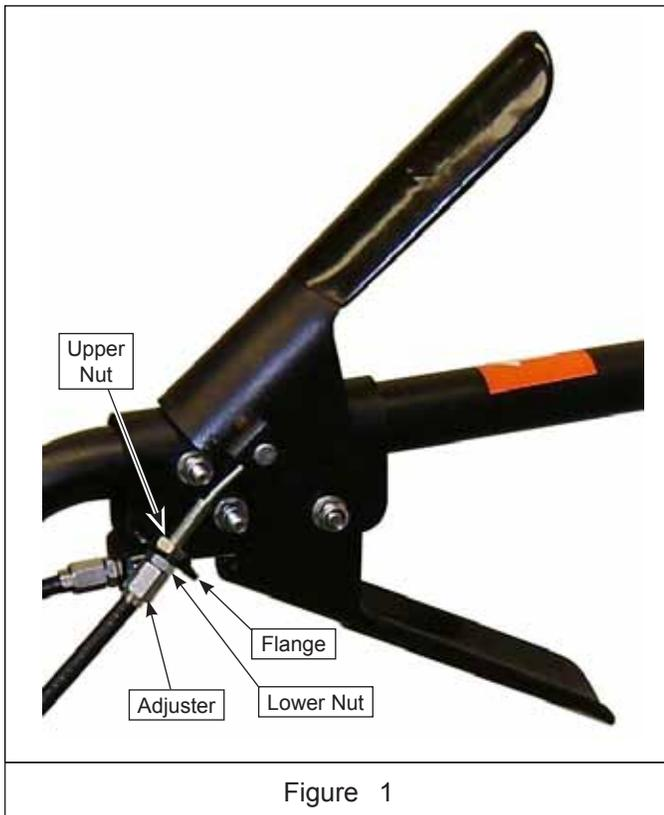

Figure 1
1. Loosen the adjuster's upper nut away from the control lever flange. See Figure 1.